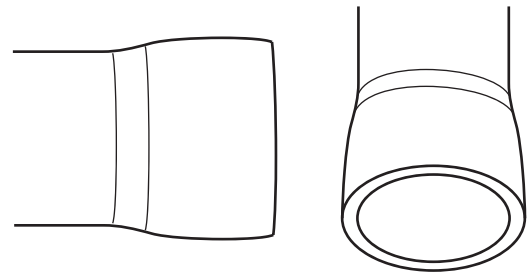

Fig. 15
**Cause:** The temperature was too low, the heating time too short, or both. See Fig. 15.